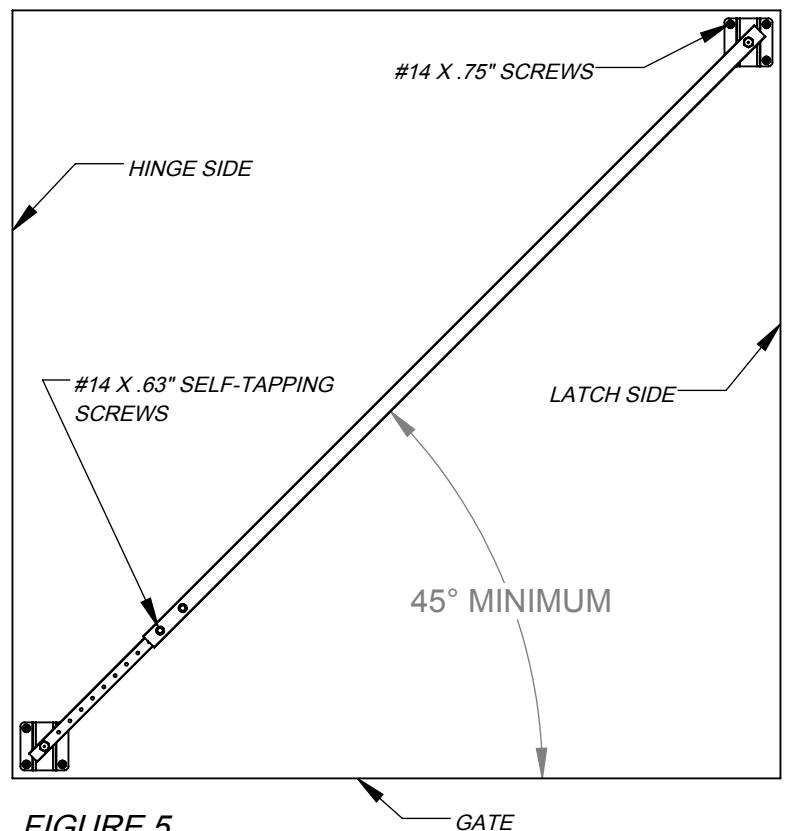

FIGURE 5
Remove the Corner Bracket/Bolt from the Outer Tube, and mount the Corner Bracket/Bolt at the marked location using (4) #14 X .75" Screws. Place the Mount Hole of the Outer Tube over the Bolt and secure with an Acorn Nut (Fig 5).
With the two Adjustment Holes of the Outer Bracket aligned with two Adjustment Holes of the Inner Bracket, secure the brackets together using (2) #14 X .63" Self-Tapping Screws (Fig 5).